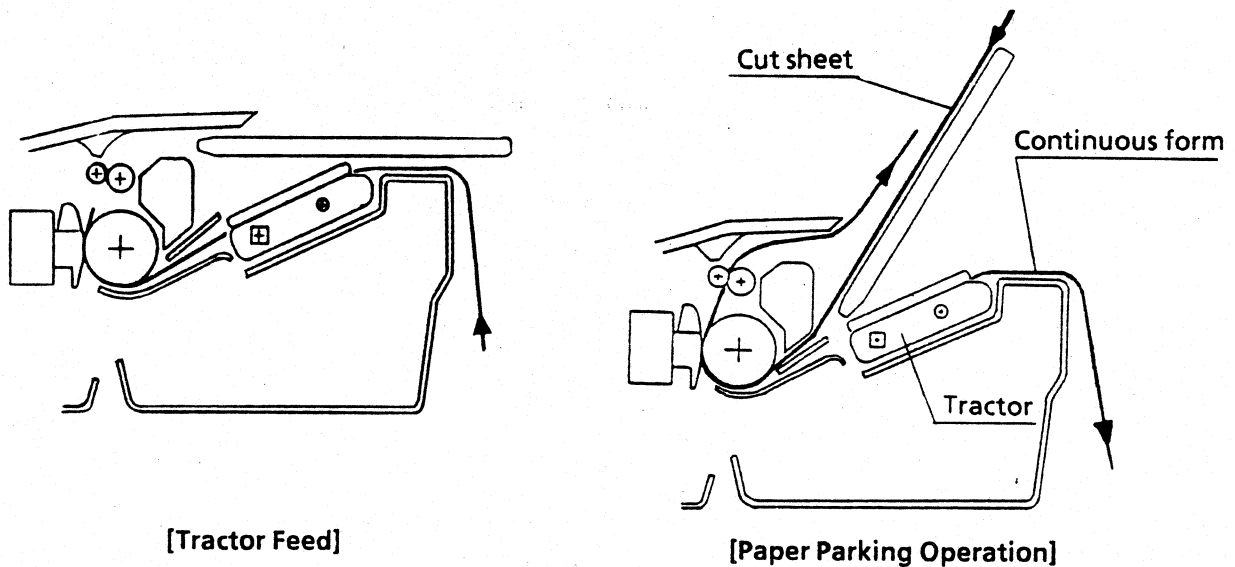

Fig. 8
(4) Paper Parking Operation (See Fig. 8)